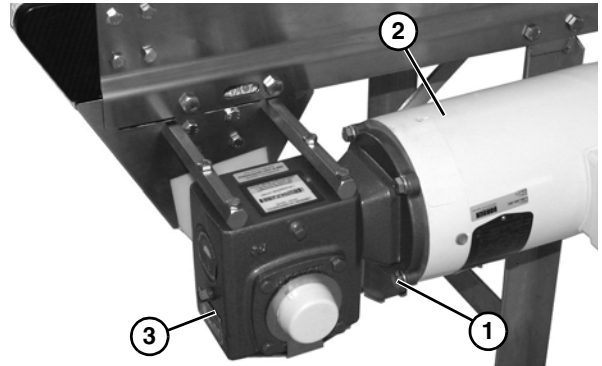

Figure 11
1. Remove the bolts (**Figure 11, item 1**) that connect the motor (**Figure 11, item 2**) to the gear reducer (**Figure 11, item 3**).